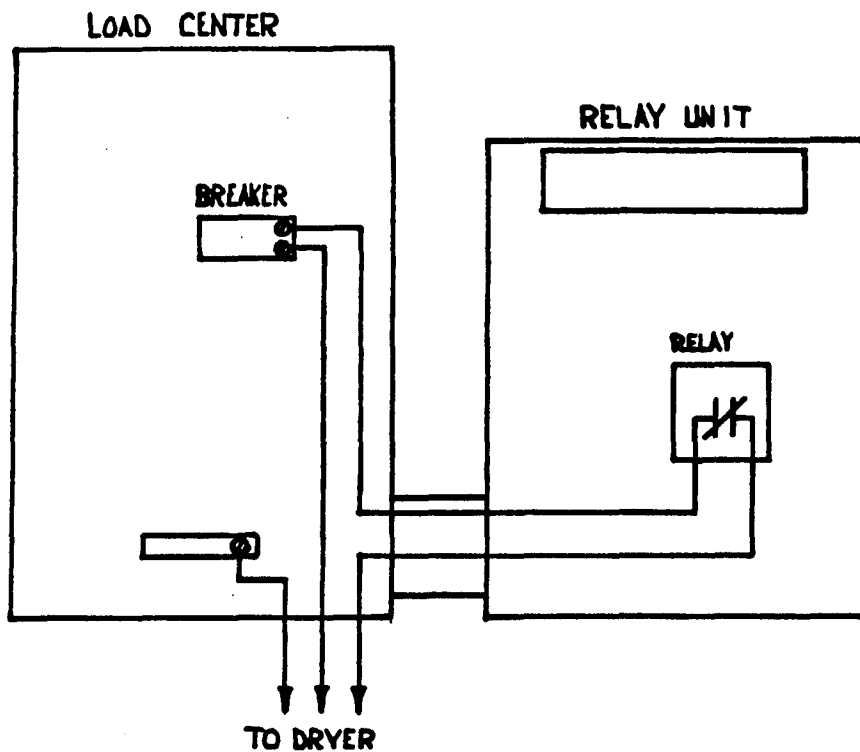

Figure 8
5. Remove the proper wire from the breaker (with the proper wire removed, the dryer motor SHOULD start. Run two short lengths of #10 AWG wire between the breaker panel and the relay unit. Wire-nut the disconnected length of wire to one of the short lengths of wire in the breaker panel. Wire-nut the other end of this wire to one red lead of the relay's contact. From the relay's other red lead the contact, wire-nut this to the other short length of wire that returns into the breaker panel. Connect the other end of the wire back to the dryer's circuit breaker as shown in FIG. 8 on the following page.